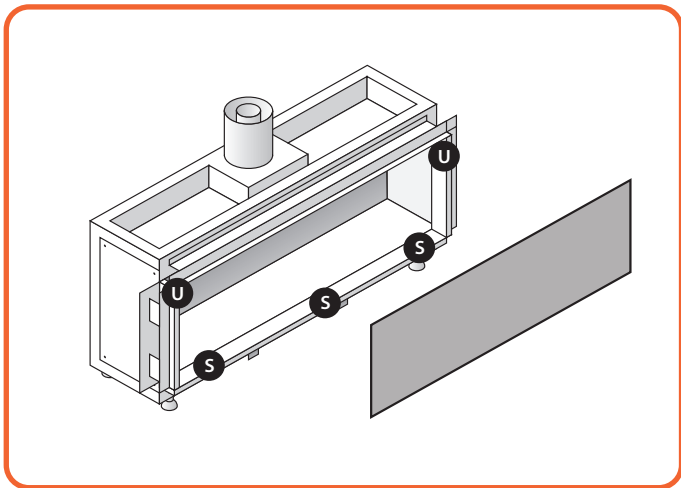
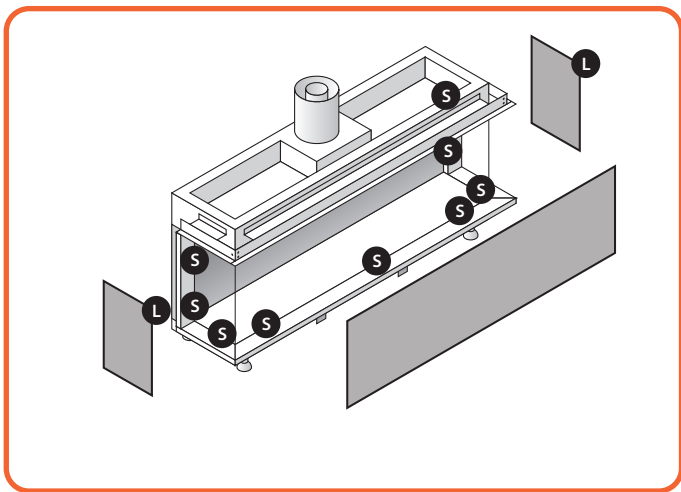

Figure 11.2 - Summum 140 F - location of tabs
Figure 11.4 - Summum 140 3S - location of tabs
- Remove the lower magnet tabs from between the bottom trim and the front windows (**Figure 11.2** and **Figure 11.4**)